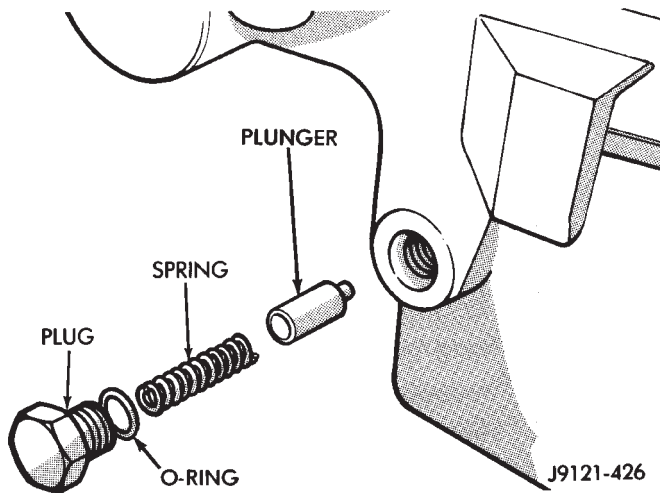

Fig. 67 Installing Detent Pin, Spring And Plug
- (47) Install plug in lockpin access hole.
(48) Install transfer case shift lever and attaching nut. Tighten nut to 30 N•m (22 ft. lbs.) torque.
(49) Install detent plunger, detent spring and detent plug in the case (Fig. 67).